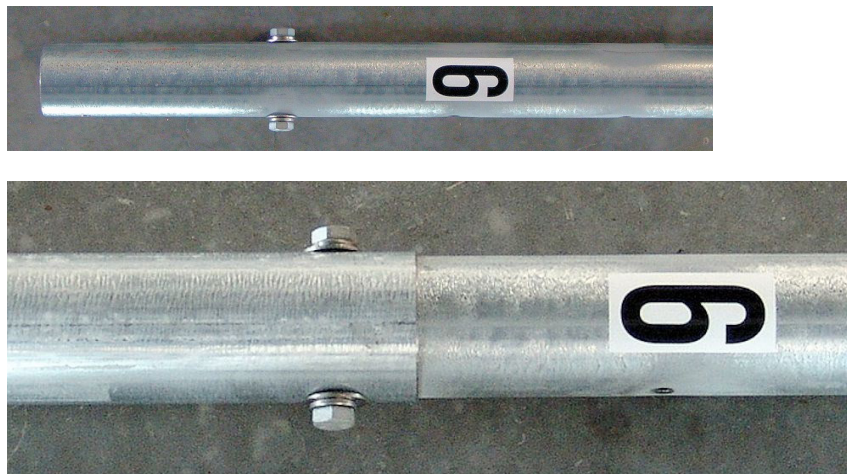

FIGURE 3-17. Mast Section 6
Step 15: Remove the hardware from Section 6. Insert Section 6 into the top of Section 5 and secure with hardware (FIGURE 3-17).